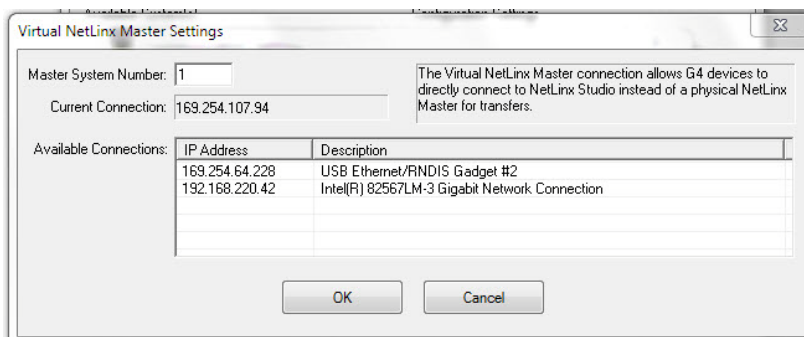

FIG. 66 Virtual NetLinx Master Settings dialog box
- Click the **Edit Settings** button on the *Communications Settings* dialog to open the *Virtual NetLinx Master Settings* dialog (FIG. 66).